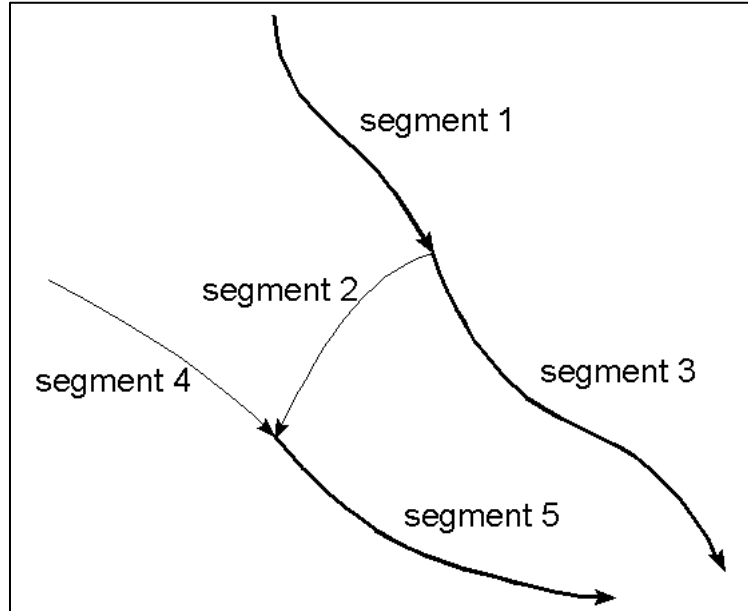

Figure 69. The stream system defined by the table in Figure 68
- **Structure:** Click this button to open the Stream Structure dialog box (Figure 68) that defines the structure of the stream system as shown in Figure 69. The table of dialog box indicates that segment 2 is diverted from segment 1, segment 1 is a tributary segment of segment 3, and segments 2 and 4 are tributary segments of segment 5.